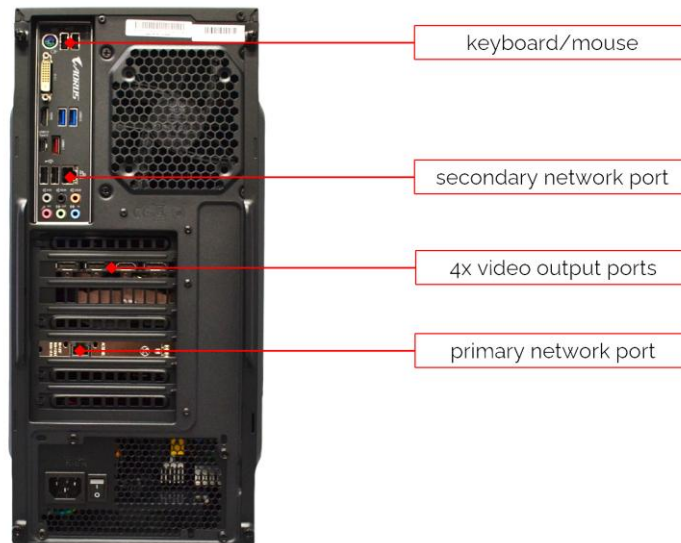
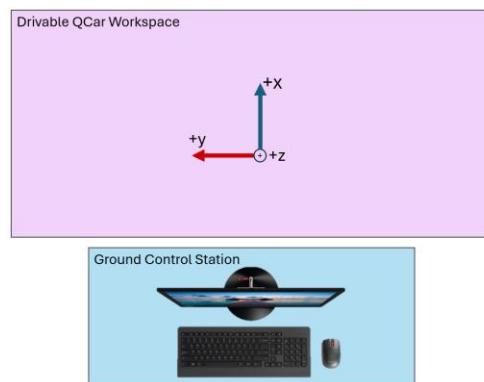

Figure 4: Self-Driving Car Studio PC peripheral inputs.
Figure 5: Recommended Self-Driving Car Research Studio layout
Use figure 4 as reference to set up the accessories for the Ground Control Station. Use the primary network port to connect the provided router. You may use the secondary network port available on the PC to connect any additional networks required by your institution. During the setup for the GCS, it is recommended that the user always has a full view of the workspace where the QCar will be operating, as shown in Figure 5.
2. Using the primary network port highlighted in Figure 4, connect the ground control station PC to the router using the provided ethernet cable (Figure 7c) to one of the LAN ports on the back of the router (number 1 in Figure 8). Make sure to not use the WLAN ports (number 2 in Figure 8). You can use the other LAN ports for connecting other PCs if they are going to use the same network.